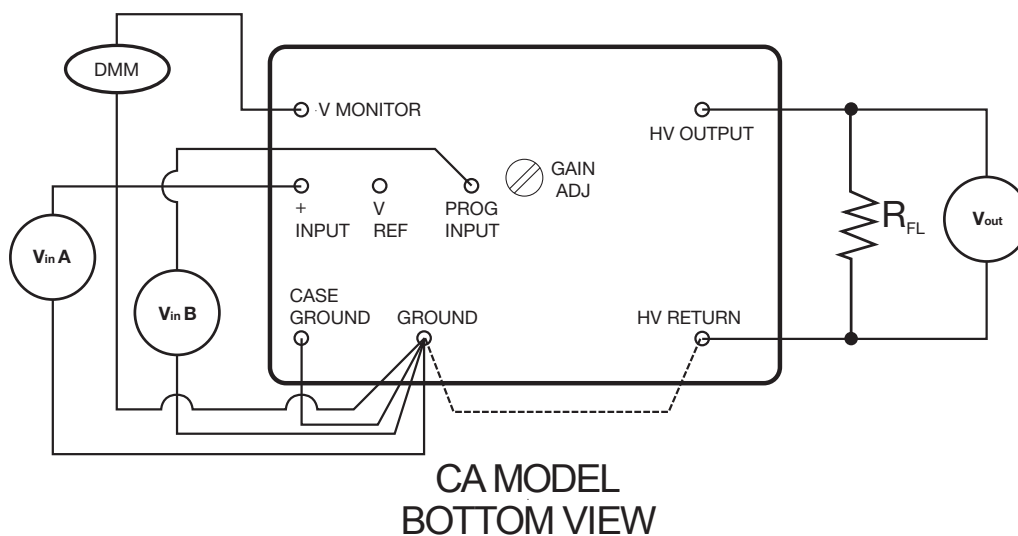

Figure 2
1. Make Connections as shown in Figure 2. Refer to CA Data Sheet for more information and detail.